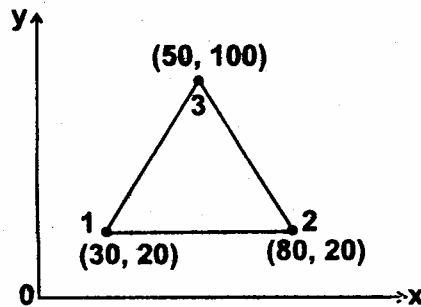

figure 3.7
7. For the plane stress element shown in figure 3.7. Evaluate the stiffness matrix. Assume $E = 210 \times 10^3 \text{ N/mm}^2$, poisson's ratio $\mu=0.25$ and element thickness $t=10\text{mm}$. The coordinates are given in millimeters.